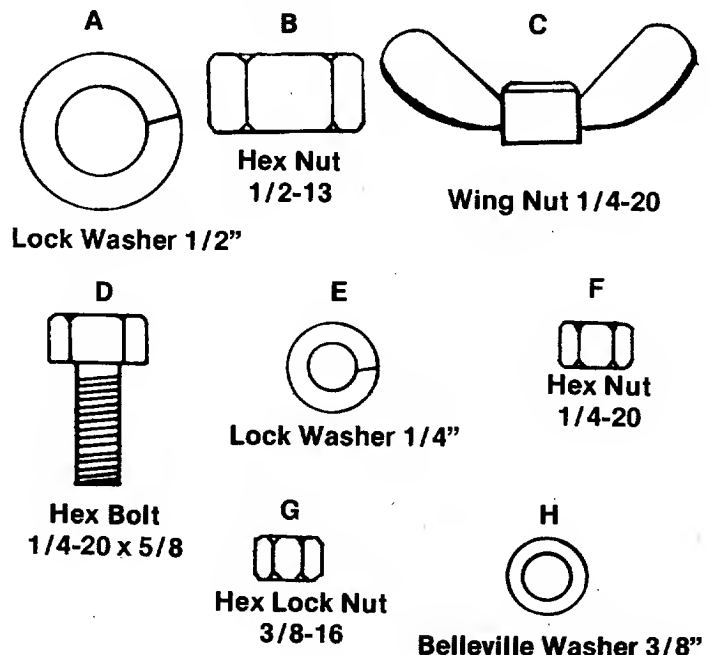

FIGURE 1. HARDWARE SUPPLIED
- Place seat on spring and secure with lockwasher (A) and hex nut (B). See figures 1 and 3.